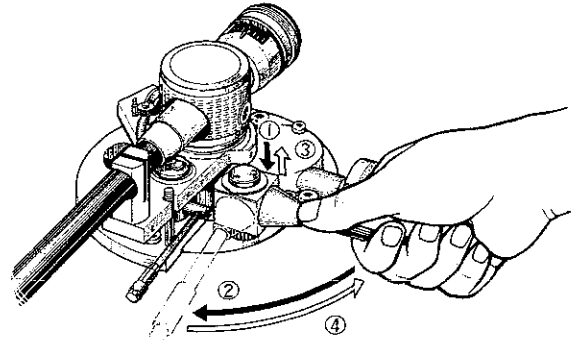

Fig. 14
4. After adjusting the tonearm height, lock the tonearm as follows. (Fig. 14)
- ① Depress the lock lever to engage the gears.
- ② Keeping the lock lever depressed, pull the lock lever towards you (in the direction of the arrow).
- ③ Release the lock lever to raise it.
- ④ Return the lock lever. Repeating this procedure three or four times will lock the lock lever and tonearm will be fixed securely.